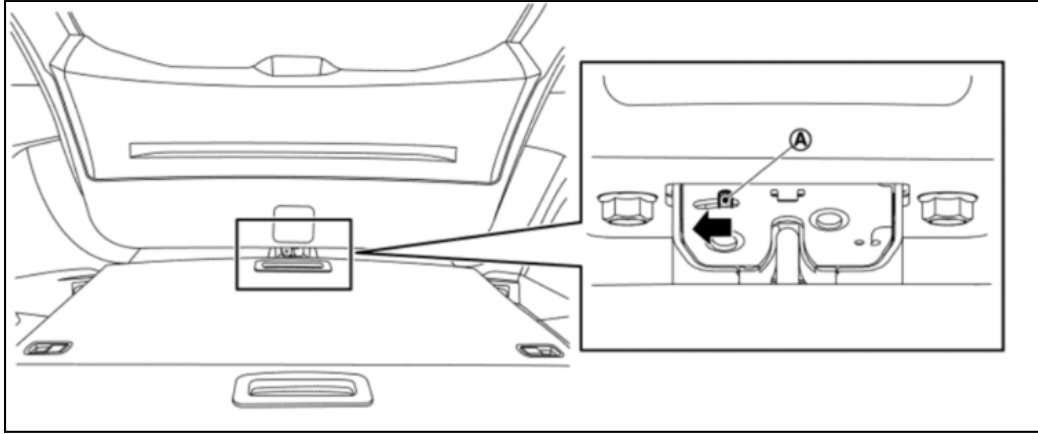

Figure 3
- The opener lever (A) is located on the metal portion of the latch (Figure 3). Push the opener lever toward the passenger (RH) side to release the latch.